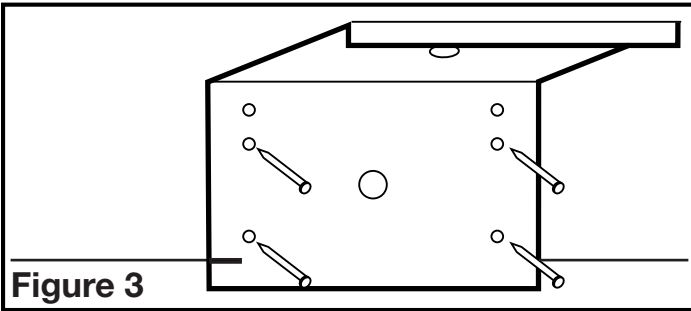

Figure 3
- Using the gauge on the mounting bracket, line up the bracket on the joist so the bottom of the fan will be flush with the finished ceiling. Nail or screw the bracket in place securely (**Figure 3**).
- Line up the bracket on the joist so the bottom of the fan will be flush with the finished ceiling. Nail or screw the snap-in bracket in place securely (**Figure 3**).